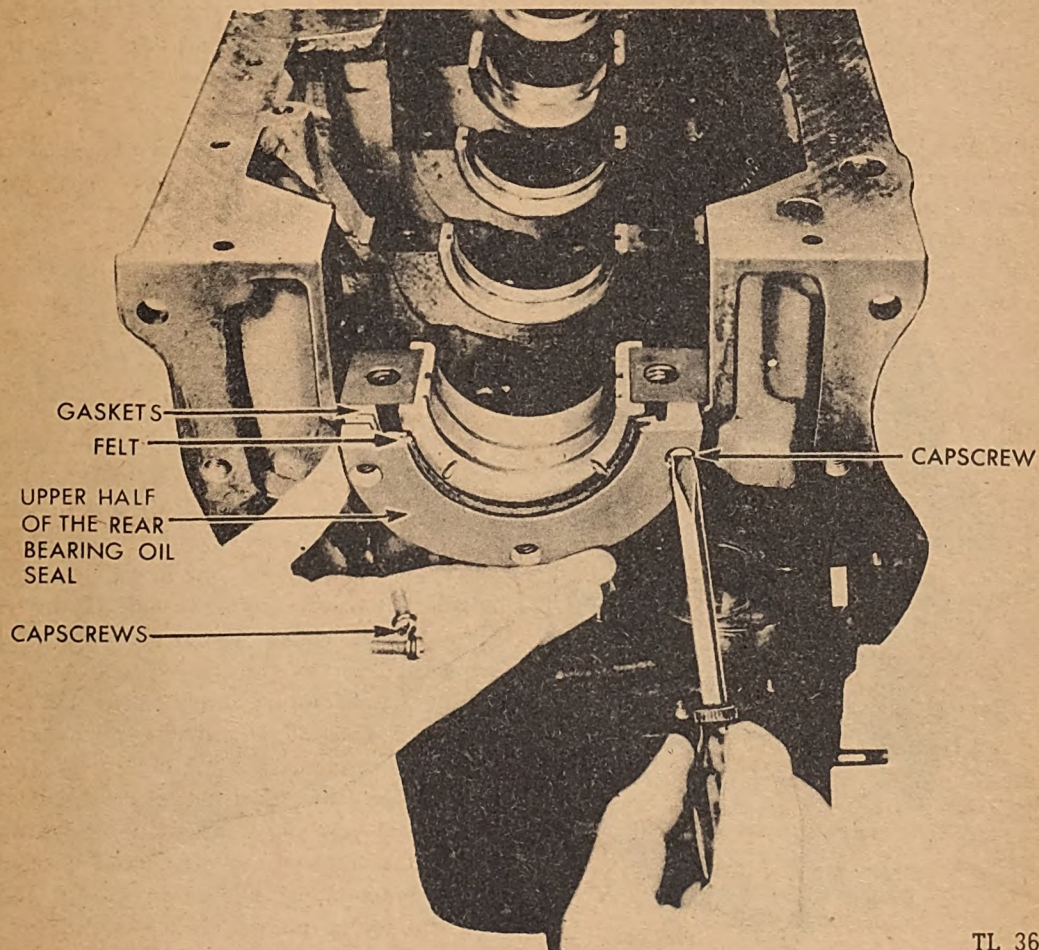

Fig. 155. Installing Upper Half Rear Bearing Oil Seal
(2) Install the upper half of the rear main bearing oil seal, using various size gaskets to locate the position of the oil seal, .010 inch to .012 inch, between the crankshaft oil slinger and the oil seal. (See Figure 155.)